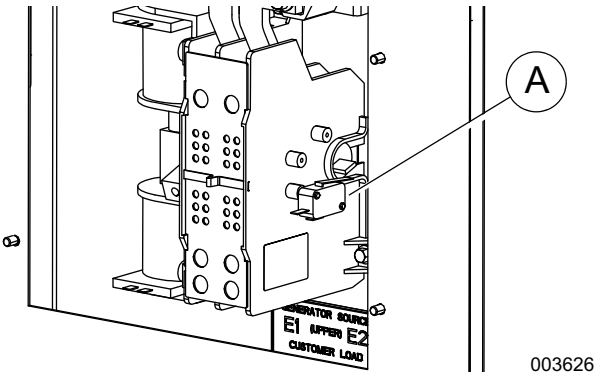

Figure 3-7. Auxiliary Contact
See Figure 3-7. If desired, there is one normally-closed Auxiliary Contact (A) on the transfer switch to operate customer accessories, remote advisory lights, or remote annunciator devices. A suitable power source must be connected to the common terminal. If needed, an extra auxiliary contact can be added.